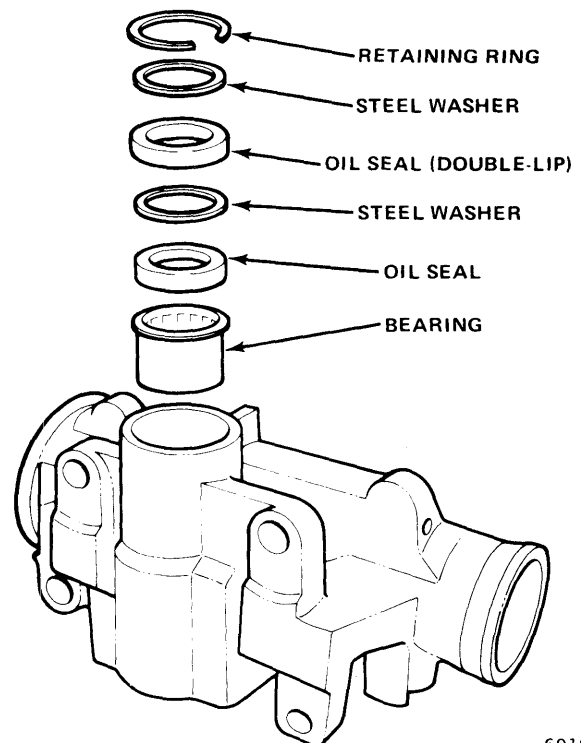

Fig. 11-73 Pitman Shaft Bearing and Seals
(1) Remove pitman shaft seal retaining ring using Snap Ring Pliers J-4245.
(2) Remove pitman shaft outer backup washer and double lip seal (fig. 11-73). Discard seal. Use screwdriver to pry out washer and seal.
(3) Remove pitman shaft inner backup washer and single lip seal (fig. 11-73). Discard seal. Use screwdriver to pry out washer and seal. Do not damage housing seal bore when removing washers and seals.
(4) Remove pitman shaft needle bearing from housing using Tool J-6657 and discard bearing.